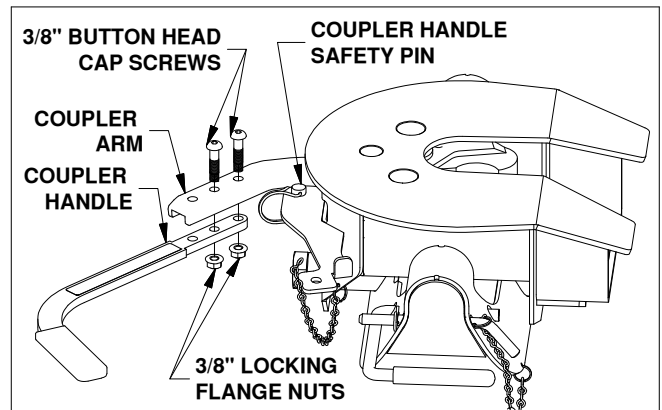

Figure D1: View looking down at side of coupler.
1. **Open coupler.** Locate the two 3/8" x 1-1/4" button head cap screws and the two 3/8" flanged lock nuts provided in the coupler bolt bag. Pull out the coupler arm and pin it with the safety locking pin near the base of the arm, as shown in Figure D1.
2. **Secure handle.** Using the button cap screws and the lock nuts attach the coupler handle to the arm and tighten, see Figure D1. Pull out the coupler handle safety pin.